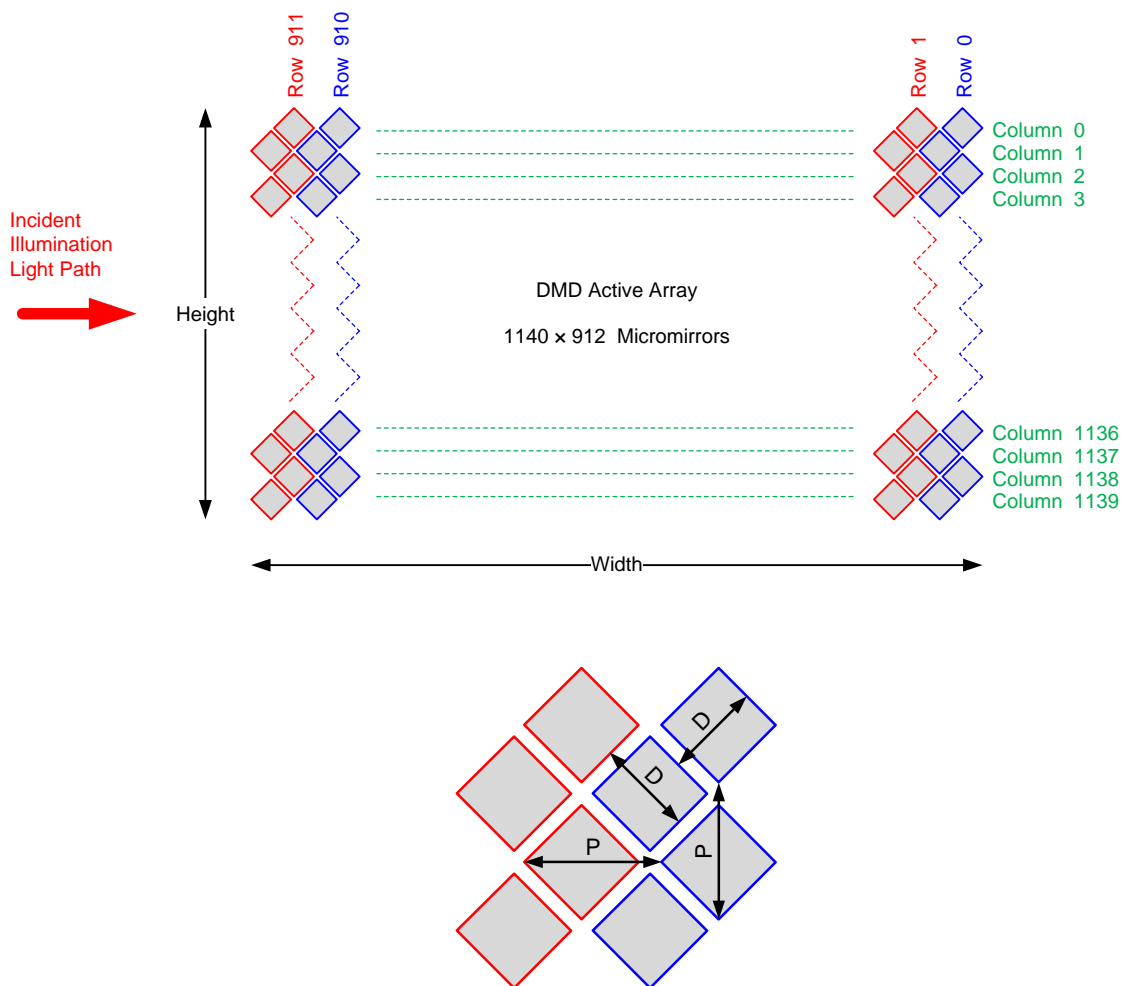
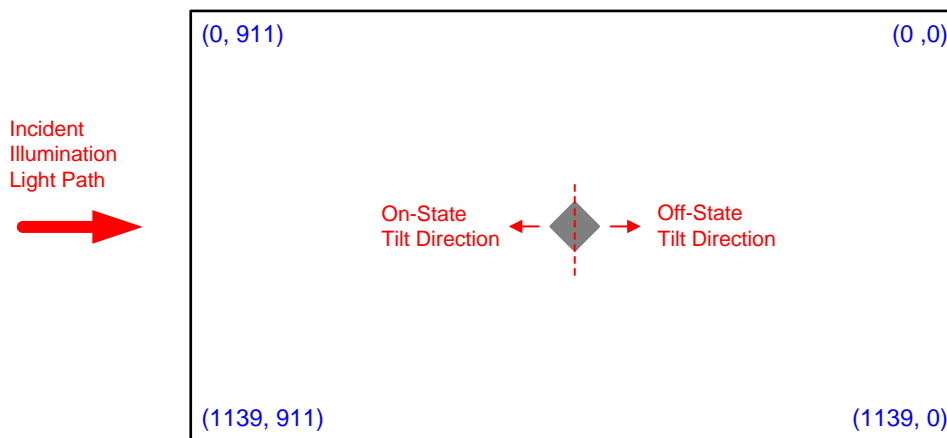

Figure 6. Micromirror Array Physical Characteristics
Figure 7. Array Coordinates and Micromirror Tilt Axis Orientation
(1) See Figure 6 and Figure 7 .